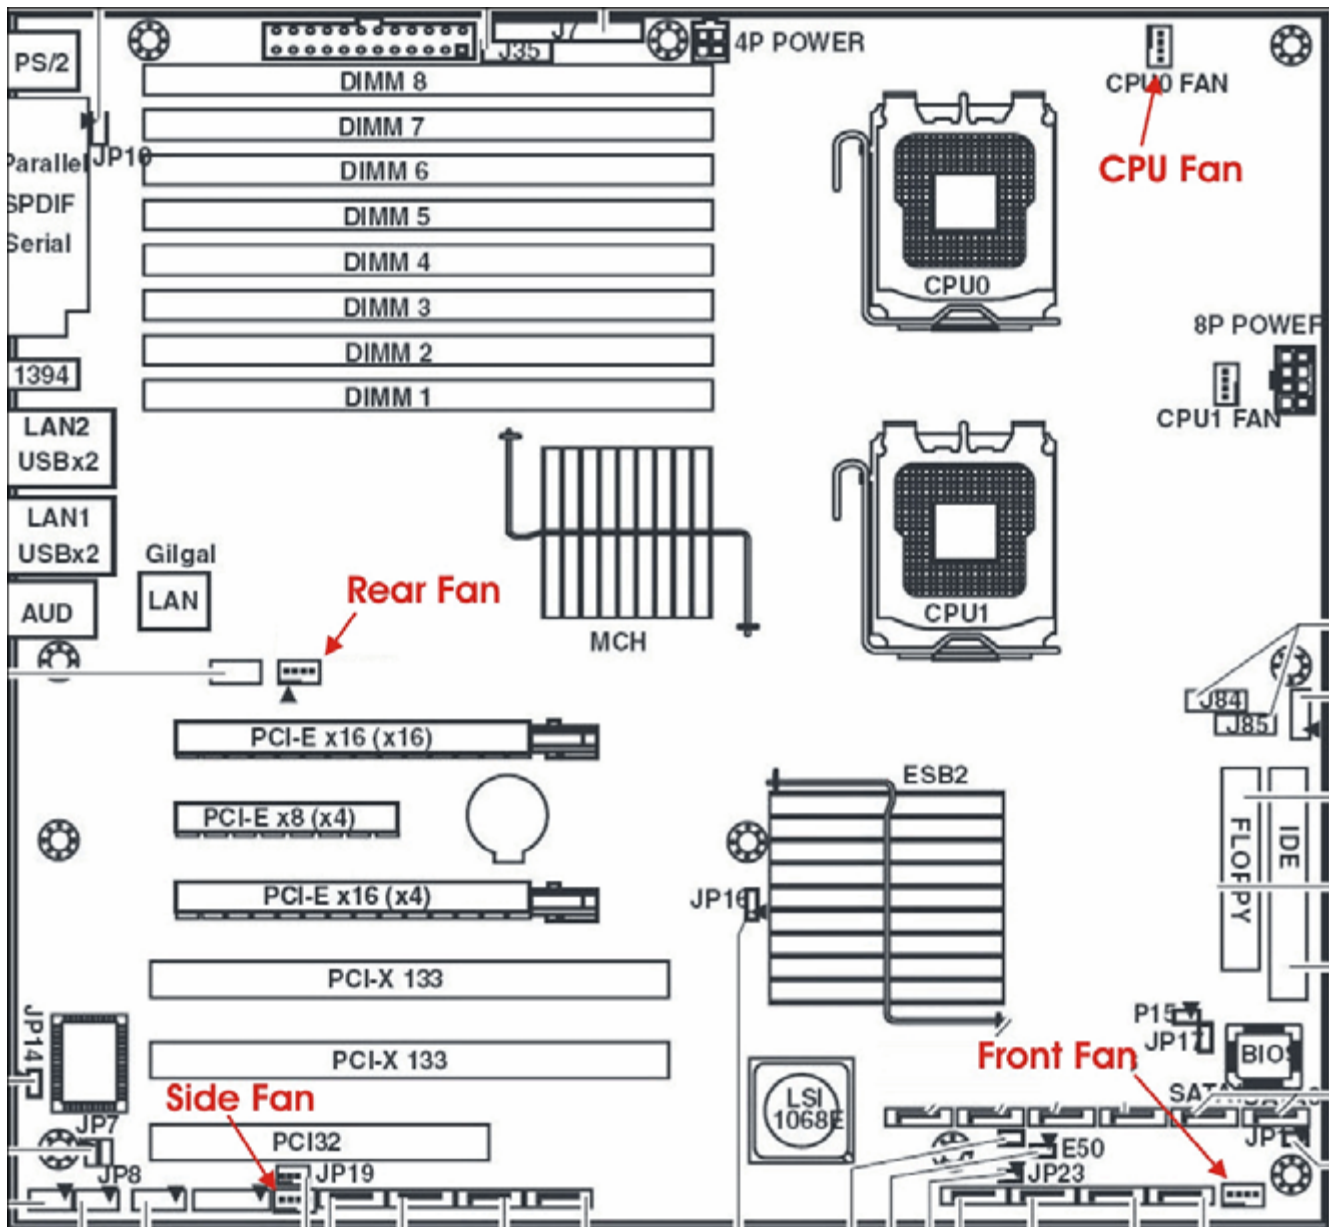

Fig. 4: Fan connectors on the mainboard
- Detach the green expansion rivet (1).
- Ensure that the green expansion rivet (1) is not pulled off the fan.
- Tilt the fan toward the front in the direction of the arrow (2) and remove it from the housing.
- Disconnect the fan cable (refer to \(Fig. 4 / p. 12\), “Front fan”).
- Connect the fan cable (refer to (Fig. 4 / p. 12), "Front fan").
- Insert the fan into the housing in the direction of the arrow (1) so that the lower edge of the fan is flush with the bottom of the device.
- Release the side fan by pressing the locking hook (a) in the direction of the arrow (1).
- Pull the bottom edge of the side fan in the direction of the arrow (2) out of the housing.
- Disconnect the cable of the fan from the mainboard (refer to Fig. 4 / p. 12, "Side fan").
- Connect the fan cable to the corresponding plug contact on the mainboard (refer to \(Fig. 4 / p. 12\), “Side fan”).
- Position the side fan at a slight angle in the direction of the arrow (1) and hook the fan lugs into the notches on the crosspiece.
- Disconnect the cable of the fan from the mainboard and take note of where it was plugged in (refer to (Fig. 4 / p. 12), “CPU fan”).
- Disconnect the cable of the fan from the mainboard and take note of where it was plugged in (refer to (Fig. 4 / p. 12), "Rear fan").
- Connect the fan cable to the mainboard at the connection point you noted before (refer to (Fig. 4 / p. 12), "CPU fan").
- Connect the fan cable to the mainboard at the connection point you noted before (refer to (Fig. 4 / p. 12), "Rear fan").